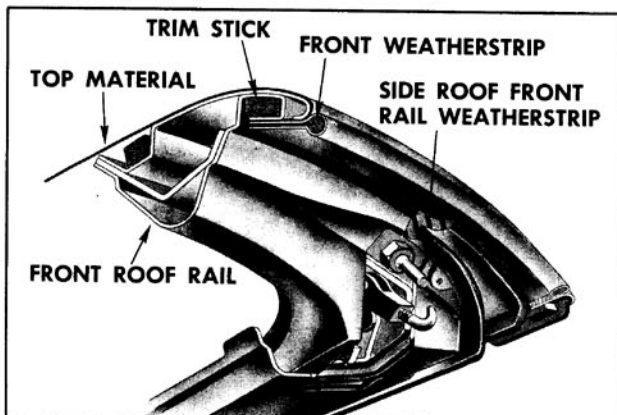

Fig. 16-430 Front Roof Rail Assembly
3. At the front of body, raise front roof rail, remove front weatherstrips; then, detach top material from front roof rail. (Fig. 16-430)